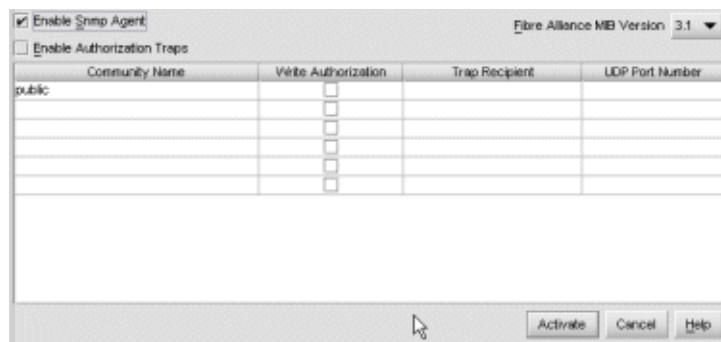

Figure 31: Configure SNMP dialog box
1. At the **Hardware View** page, choose **Configure > SNMP Agent**. The Configure SNMP dialog box displays, as shown in Figure 31.